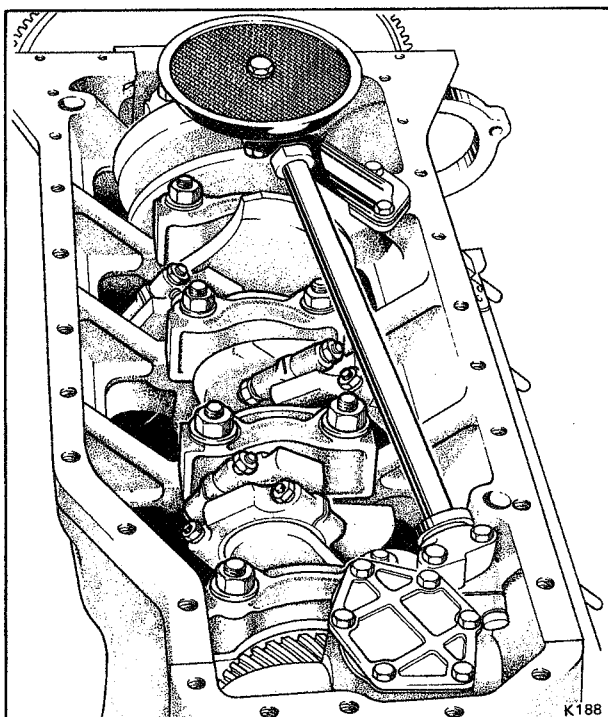

Fig. E13 View with the sump removed
14. Fit the oil strainer pick-up and pedestal (see Fig. E13).
24. Visually inspect the big-end and main bearings (see Fig. E13) and fit the engine sump, using a new gasket.